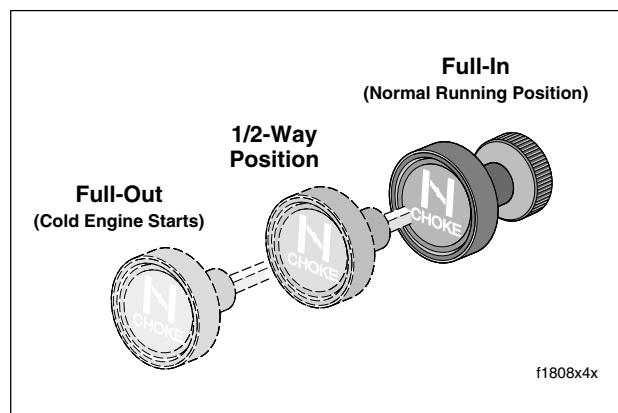

Figure 4-2. Set the Enricher Knob
1. After initial 15-30 second warm-up, ride for 3 minutes or 2 miles (3.2 km) with enricher knob in full out position. See Figure 4-2.
1. After the initial 15-30 second warm-up, ride for 1 minute or 1/2 mile (0.8 km) with enricher knob in full out position. See Figure 4-2.